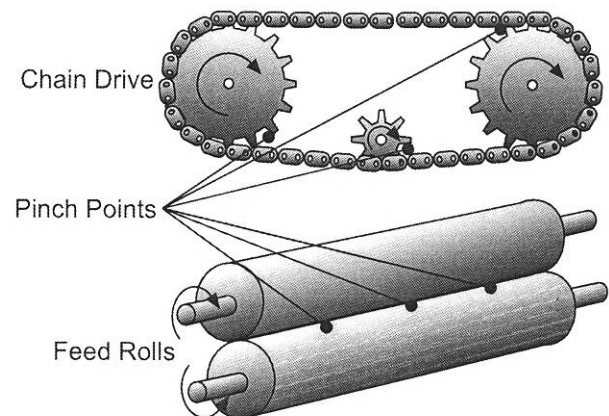

Figure 1. Pinch points on rotating parts can catch clothing, hands, arms, and feet.
- **Pinch points** — any point where two machine parts move toward each other and at least one of them is rotating. The areas where drive belts contact pulleys or sprockets mesh with chains are prime examples of pinch points (Figure 1).